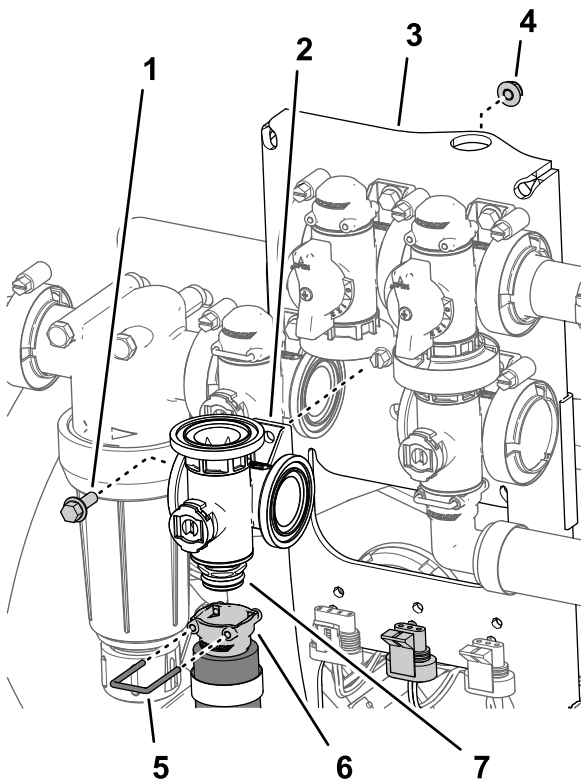

Figure 116
2. Remove the retainer that secure the quick-disconnect socket to the manifold quick-disconnect coupling for the agitation valve (Figure 116).
- Remove the flange-head bolt (1/4 x 3/4 inch) and flange locknut (1/4 inch) that secure the agitation valve to the valve mount and remove the valve manifold from the machine (Figure 116).